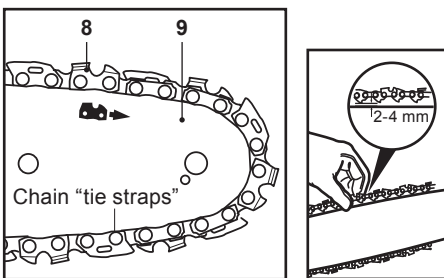
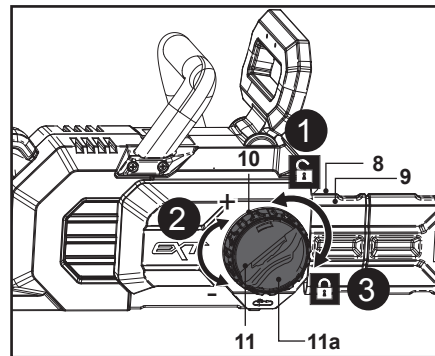

Fig. 7
Fig. 8
**WARNING! REMOVE THE BATTERY PACK (21) FROM THE PRODUCT BEFORE ADJUSTING SAW CHAIN TENSION!**
**THE CUTTING EDGES OF THE SAW CHAIN (8) ARE SHARP! ALWAYS WEAR PROTECTIVE GLOVES WHEN HANDLING CHAIN!**
1. Place the product on a suitable flat surface with the chain saw cover (12) facing forwards.
2. Check the chain tension using one hand to lift the saw chain (8) against the weight of the product. The correct chain tension is achieved when the saw chain (8) can be lifted by approximately 2 - 4 mm from the guide bar (9) in the centre (Fig. 7).
3. Adjust the tension if you find that the saw chain (8) is too loose or tight.
4. Hold the locking ring (11a) and slightly loosen the locking wheel (11) anticlockwise, then rotate the chain tension wheel (10) anticlockwise or clockwise to adjust the guide bar (9) towards the left or right until the chain 'tie straps' are just touching the bottom edge of the guide bar (9), hold it in the position (Fig. 8, steps 1, 2).
5. Pull the saw chain (8) along the top of the guide bar (9) by gloved hand from one end to the other, several times. The saw chain (8) should feel tight but still move freely.
6. After the adjustment, re-tighten the locking wheel (11) (Fig. 8, step 3).